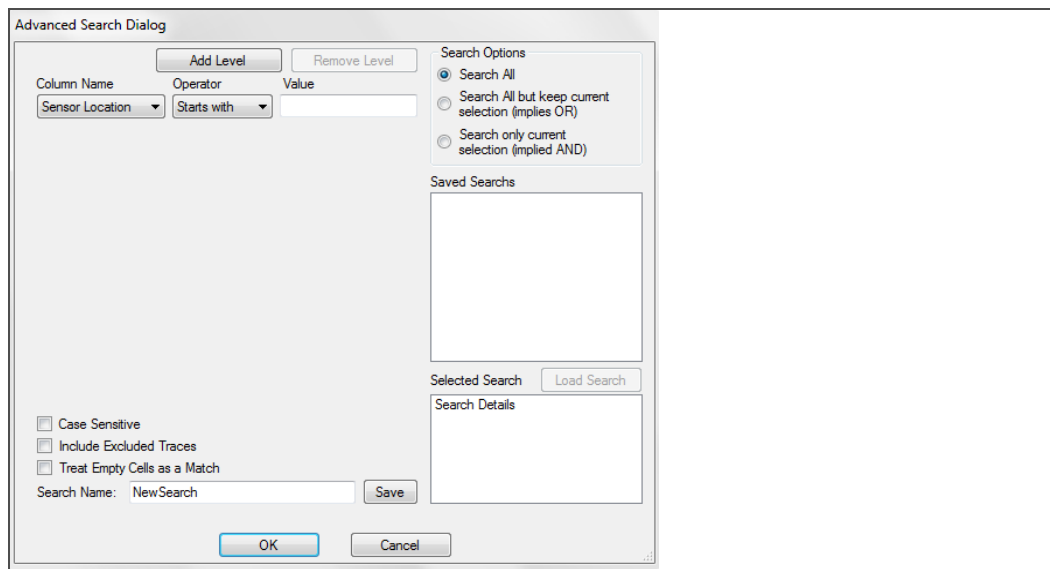

Figure 5-52: Advanced Search Dialog Box
- **Advanced Search**—Searches the contents of the results table of the **Analysis** tab. Multiple levels and operators are available. Searches may be combined (using **AND/OR** operator) and saved (see Figure 5-52).